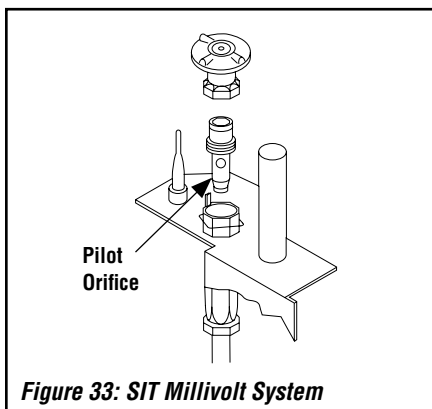

Figure 33: SIT Millivolt System
**Step 7.** (Millivolt systems only): Refer to **Figure 33**. Remove the pilot hood assembly to access the hexed pilot orifice. Remove and replace the orifice with the one provided in the kit.